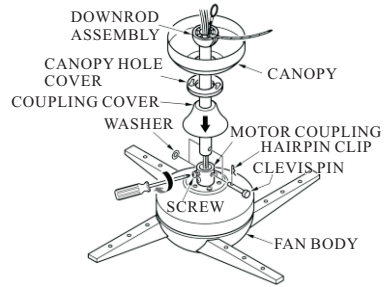

FIG.4
2. Insert the down rod through the center opening in the canopy, coupling cover and route the motor leads through the hanger ball/downrod assembly. Align the clevis pin holes in the downrod with the holes in the motor coupling. The clevis pin must pass through the holes in the motor coupling and the downrod. Place the washer onto the clevis pin and install the hairpin clip making sure to push straight leg of the hairpin clip through the hole near hanger ball to make sure the clevis pin is properly installed (See fig.4)